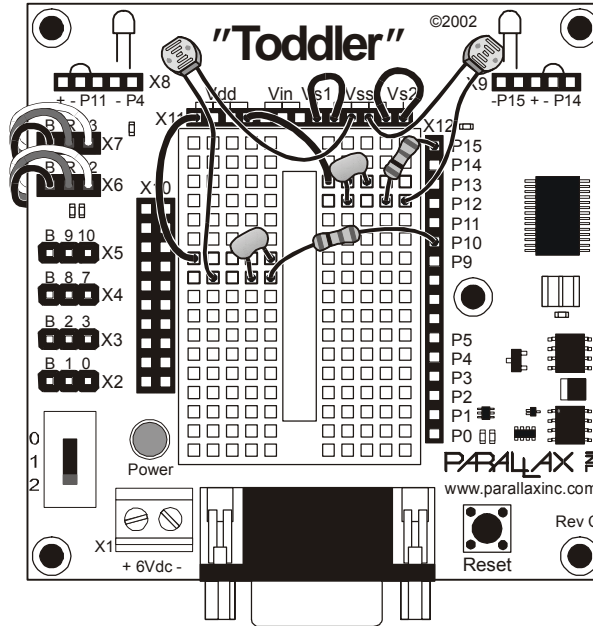
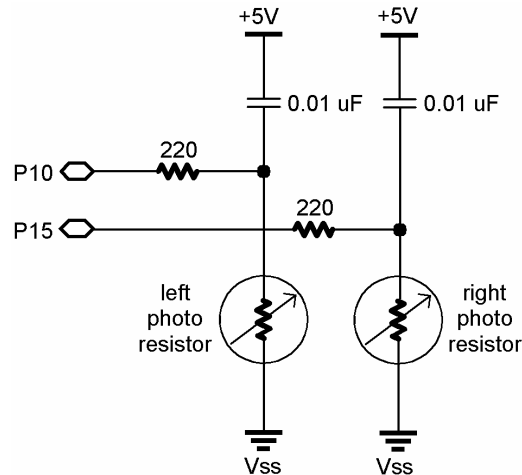

Figure 5-2: Light Following Pictorial
Figure 5-3: Light Following Schematic
Figure 5-2 and Figure 5-3 show the resistor/capacitor (RC) circuit for each photoresistor. A photoresistor is an analog device. Its value varies continuously as luminance, another analog value, varies. The photoresistor's resistance is very low when its light-sensitive surface is placed in direct sunlight. As the light level decreases, the photoresistor's resistance increases. In complete darkness, the photoresistor's value can increase to more than 1 M Ohm. Even though the photoresistor is analog; its response to light is nonlinear. This means if the input source (luminance) varies at a constant rate, the photoresistor's value does not necessarily vary at a constant rate.
The circuit in Figure 5-2 and Figure 5-3 was designed for use with the PBASIC `RCTIME` command. This command can be used with an RC circuit where one value, either R or C, varies while the other remains constant. The `RCTIME` command lends itself to measuring the variable values because it takes advantage of a time varying property of RC circuits.